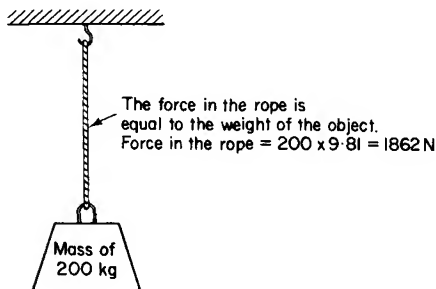

Fig. 2.1
In Fig. 2.1 a mass of 200 kg is supported on the end of a rope. The rope prevents the mass from falling to the ground and hence the force in the rope is equal to the force which the earth exerts on it. That is, the force in the rope is equal to the weight of the mass. The force in the rope is $200 \times 9.81 = 1862 \text{ newtons}$.
1. **Tensile forces.** When we pull a piece of elastic it stretches. Whenever a force is applied which tends to increase the length of an object we say that a tensile force has been applied. When an object is supported by a rope as in Fig. 2.1, the rope tends to increase in length and hence it contains a tensile force. The rope itself is said to be in *tension*.